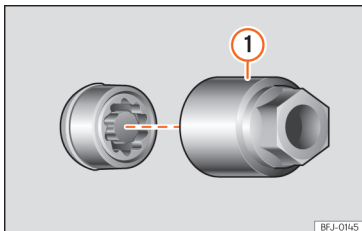

Fig. 225 Anti-theft wheel bolt with cap and adapter.
- Insert the special adapter »» Fig. 225 ① (vehicle tools »» page 289) onto the anti-theft wheel bolt and push it on as far as it will go.